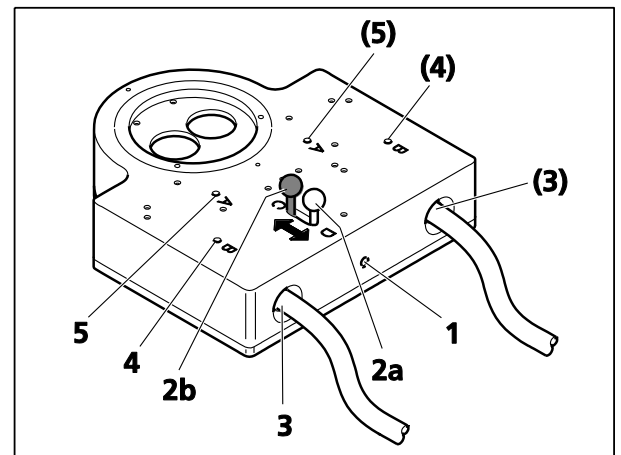

Fig. 13 Coaxial epi-illumination (bottom side)
Screw in the switching lever at the bottom (Fig. 13/2) after fitting the unit to mount S.
Screw in the switching lever at the back (Fig. 13/1) **before** fitting the unit to mount S.
- Move the switching lever backwards to position **D** (Fig. 13/2a) and retain it.
- Insert both light guide arms carefully into the back holes (Fig. 13/3), thread them into the light guide slot and push them to stop.
- Tighten the clamping screws through the drill holes **B** (Fig. 13/4) using the Allen key 3 mm.
To achieve a more homogeneous illumination for magnifications equal to or larger than those indicated in the following table, you can adjust the lever at front position **C** (Fig. 13/2b) without additional vignettation also for **objectives S 1.0x**.